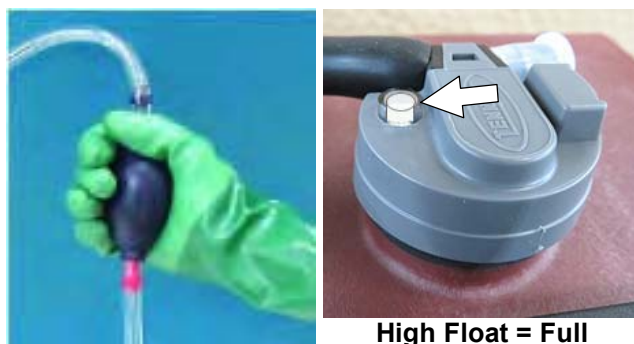

FIG. 132
- Squeeze the bulb on the hand pump hose until firm. The indicator float will rise when full (Figure 132).